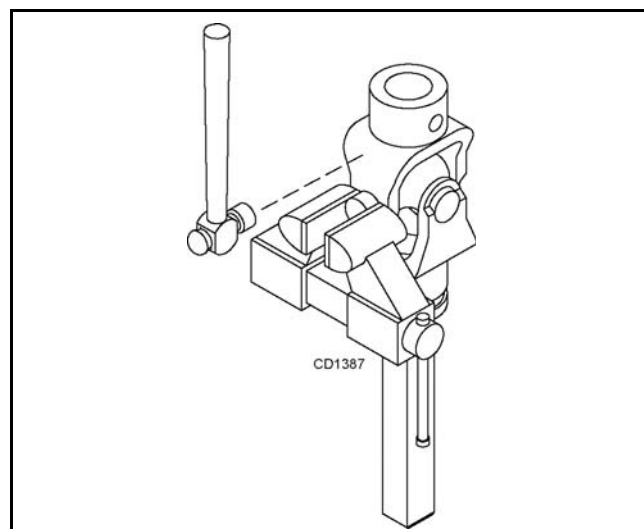

Figure 19.
3. Clamp cup in vise as shown in Figure 19 and tap on yoke to completely remove cup from yoke. Repeat Step 2 and Step 3 for opposite cup.